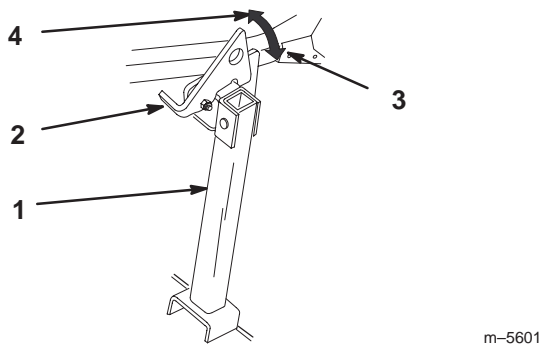

Figure 28
1. Raise latch to unlocked position (Fig. 28).